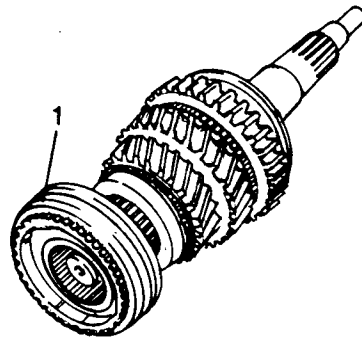

Fig H1.140
- (3) Refer to Fig H1.140. Remove the synchro unit (1) for 3rd and 4th speed, taking care that this does not come apart on removal.